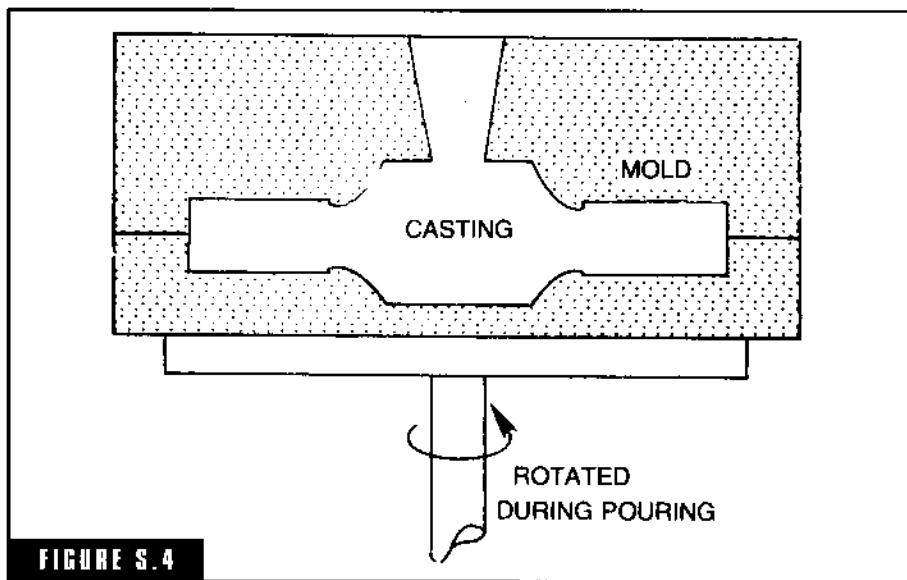

FIGURE S.4
**semi-centrifugal** When a casting is symmetrical about its own axis, such as a wheel or gear blank casting and poured through its hub or center, the process is called semi-centrifugal (Fig. S-4).